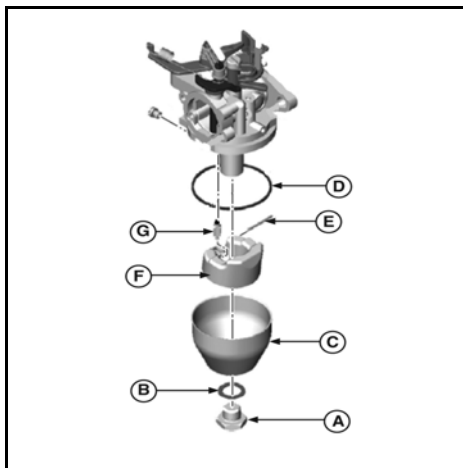

Figure 37
- Remove the fixed main jet (bowl nut) (A, Figure 37) and fiber washer (B), then remove the fuel bowl (C) and the bowl gasket (D) from the carburetor body. Discard the fiber washer and the gasket.
- Remove the float hinge pin (E), float (F), and inlet needle (G). Discard the hinge pin, and inlet needle.